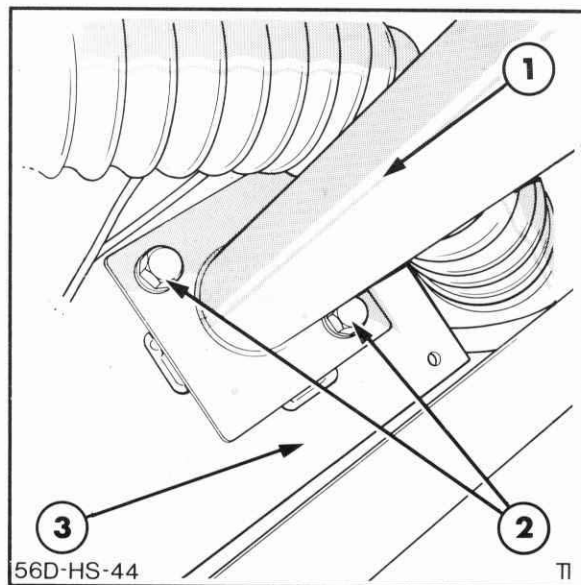

Figure 7-21
9. Remove the motor mounting bolts, Figure 7-21, and lower the motor from the mounting flange. Now lift the motor out of the fire wall.